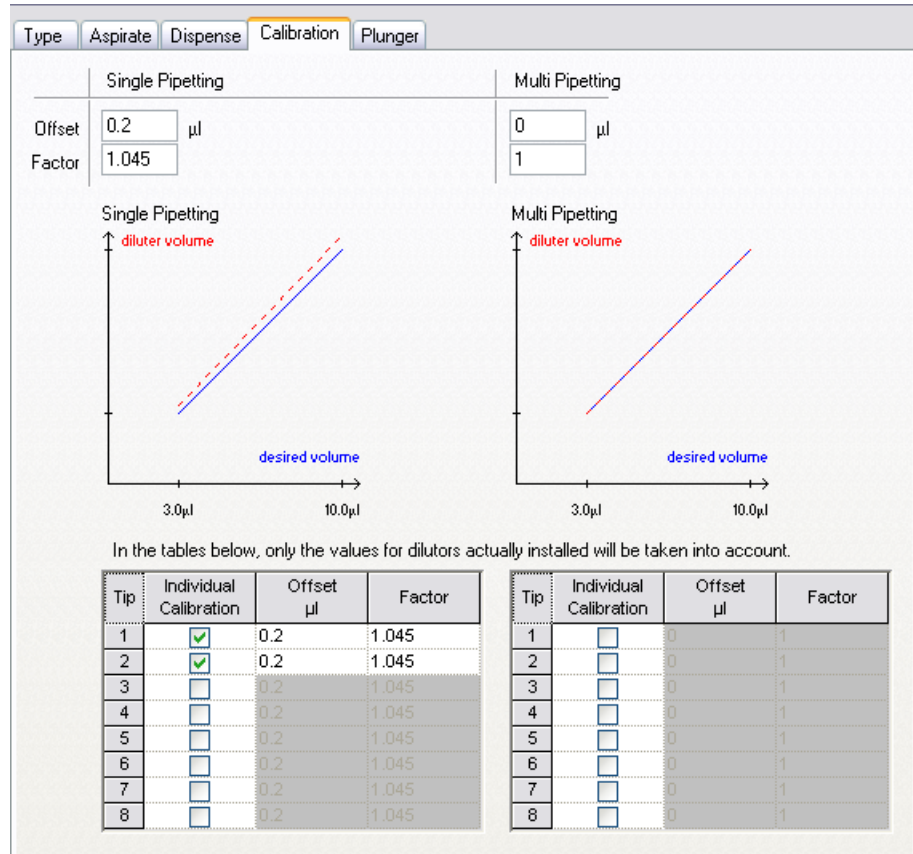

Fig. 10-10 Calibration parameters
In order to reach the best precision values over all pipetting channels it could be necessary to adjust the **Offset** (see Fig. 10-10, Fig. 10-23) of each individual pipetting channel.
- 4 Enter the *new calibration offset* in the **Offset** field of the appropriate channel at the bottom of the **Calibration page** (refer to Fig. 10-10, Fig. 10-23).
- 8 Enter the final calibration offset in the **Offset** field of the appropriate channel at the bottom of the **Calibration page** (refer to Fig. 10-10, Fig. 10-23).